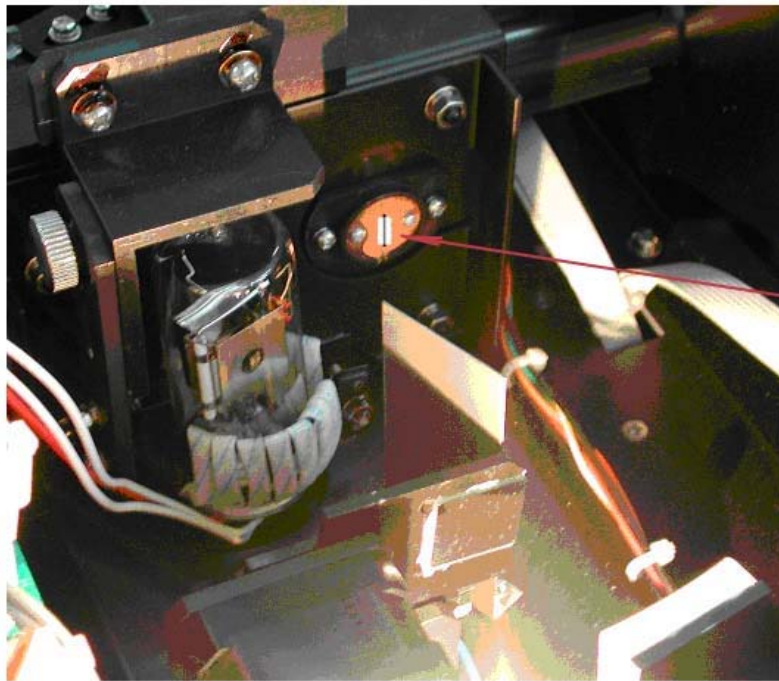

Figure 7.5 Tungsten Lamp
7. Insert the new lamp (Figure 7.5), pushing it in as far as it will go.